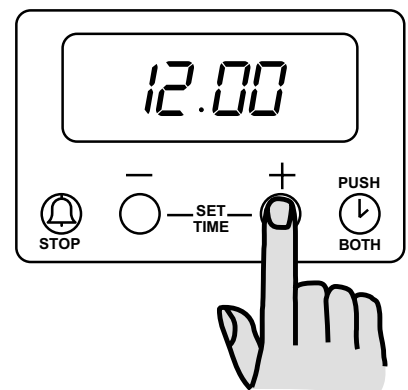

Fig. 2
2. Release buttons, then press button "+": **12.00** will show in the display (See Fig. 2).